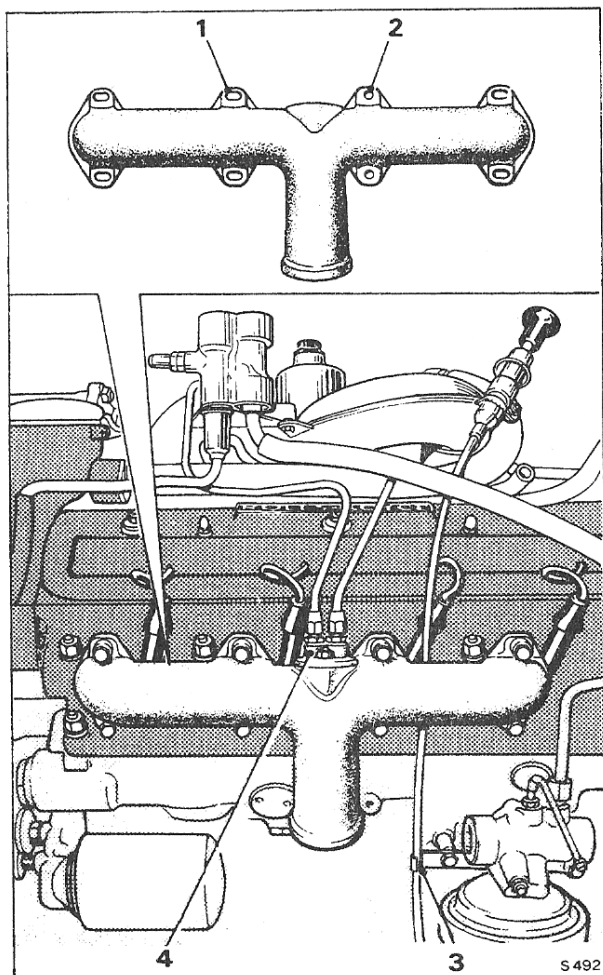

Fig. Q1 'B' bank exhaust manifold
3. Detach the two choke stove pipes from the unions located on 'B' bank manifold. Blank off the pipes to prevent ingress of dirt (see Fig. Q1).